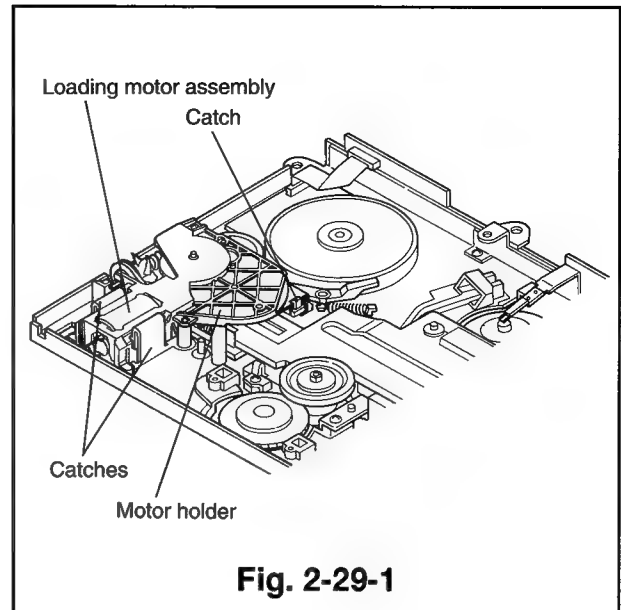
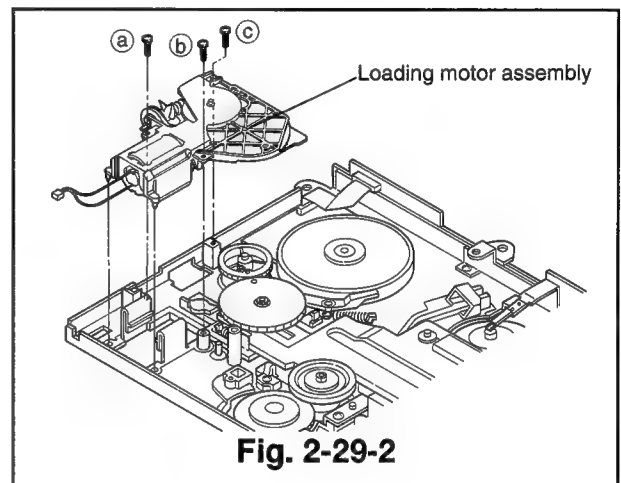

Fig. 2-29-1
Fig. 2-29-2
- ① Unfasten the reel belt. (Refer to Para. 2-28 for the removal method.)
- ② Remove the three screws (a, b and c) as shown in Fig. 2-29-2 and unfasten the three catches to remove the loading motor assembly (which holds the motor holder). (Refer to Fig. 2-29-1)
- ⑦ Install the loading motor assembly (which holds the motor holder) in the position shown in Fig. 2-29-2 and secure it with the three screws (a, b and c).
- ⑧ Install the loading motor belt. (Refer to Para. 2-28 for the installation method.)